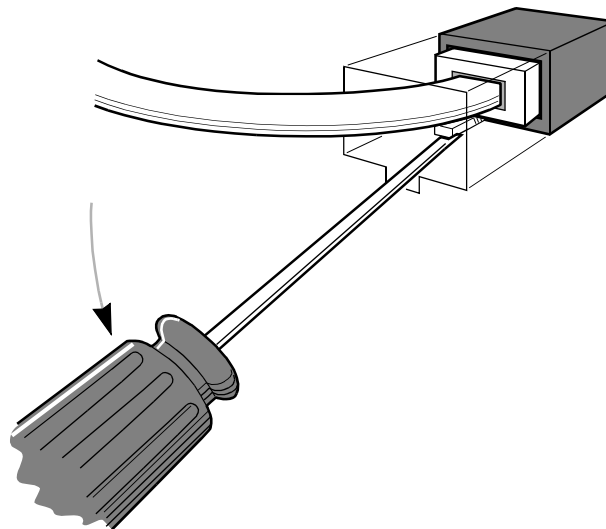

Figure 7. Releasing Backplane Audio Connectors
For compliance with safety standards, audio connectors (for dial and leased line connections) on the 326X Series Modem backplane are recessed approximately 4 cm behind the sheet metal on the backplane (Figure 7).
- 1) Insert a small screwdriver beneath the clip on the bottom of the connector (Figure 7).